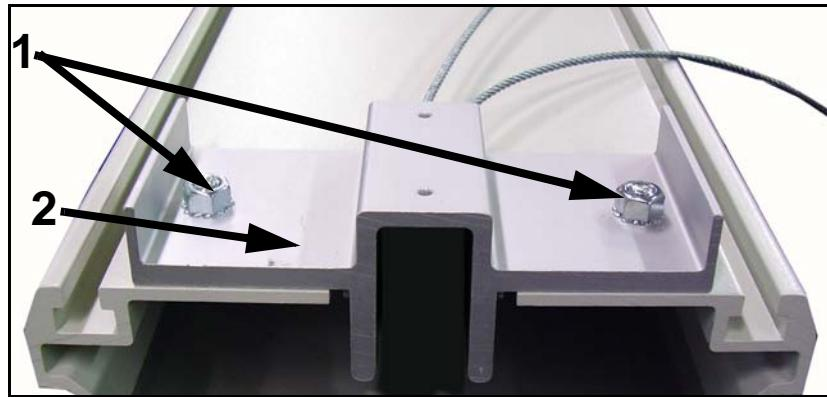

Figure 6-8. Pulley Bracket
- 7 Unscrew two nuts (1 in Figure 6-8) and remove bracket (2).